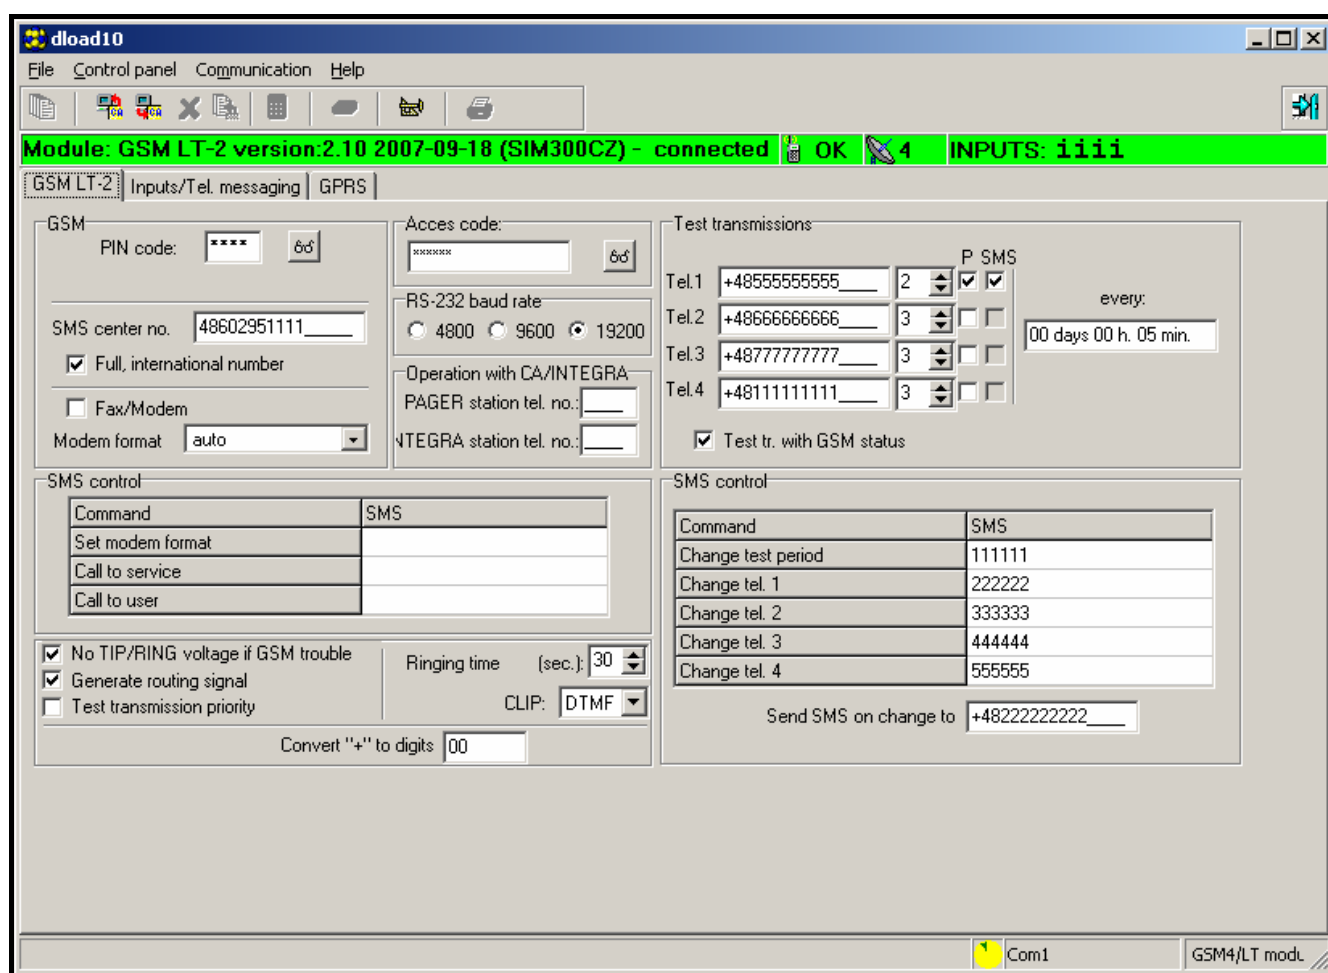

Figure 11.
4. Program the module. After starting the DLOAD10 program, the main window will open (see: Fig. 11). The green bar in the upper part of the window shows the current status of the module, antenna signal level and input status. Just below the green bar you can find 3 tabs: **GSM LT-2**, **Inputs/Messaging** and **GPRS**. They are described below.
This tab allows the user to configure the basic working parameters of the module. The values shown on Fig. 11 are just an example. By default, the data related to test transmission and SMS control, as well as the PIN code, are not programmed. The parameters programmable in the **GSM LT-2** tab correspond to the control functions 1–41 and have been reviewed at the local control (DTMF) description in section **Module Programming** (pages 15–28).